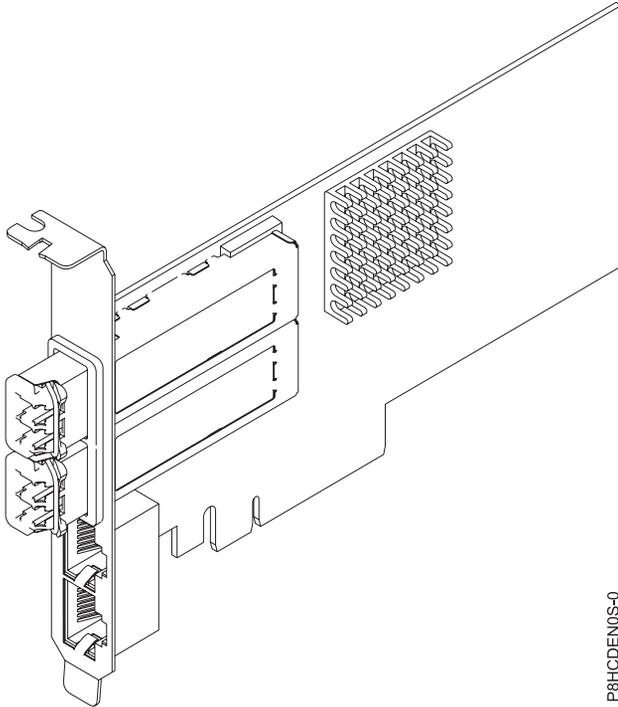

Figure 56. FC EN0S adapter
The four-port adapter provides two 10 Gb small form-factor pluggable (SFP+) optical SR transceiver ports and two 1 Gb RJ45 Ethernet ports. The two 10 Gb SR ports have little connector (LC) duplex-type connectors. The optical transceiver uses shortwave laser optics and is attached with MMF-850nm fiber cabling with LC connectors. See “Cables” on page 66 for more information about the optical cables. Each 10 Gb port provides Ethernet connectivity with a nominal data rate of 10 Gbps (gigabits per second). Figure 56 on page 65 shows the FC EN0S adapter.